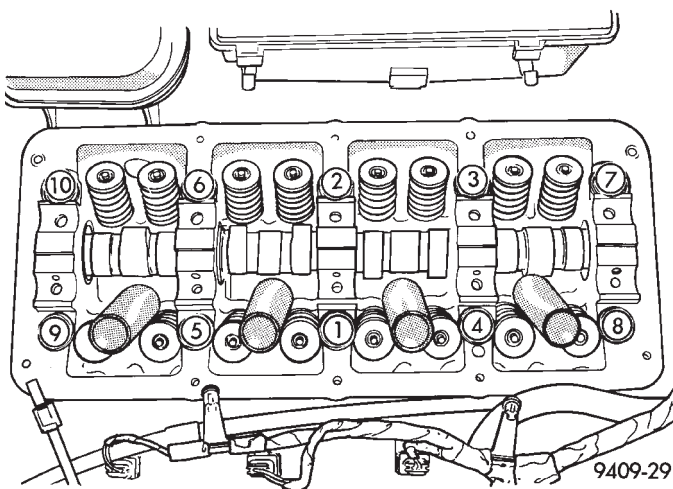

Fig. 42 Cylinder Head Tightening Sequence
(1) Before installing the cylinder head bolts, the threads should be oiled with engine oil. The 4 short bolts 110 mm (4.330 in.) are to be installed in positions 7, 8, 9, and 10 (Fig. 42).
(2) Tighten the cylinder head bolts in the sequence shown in (Fig. 42). Using the 4 step torque method, tighten according to the following values: